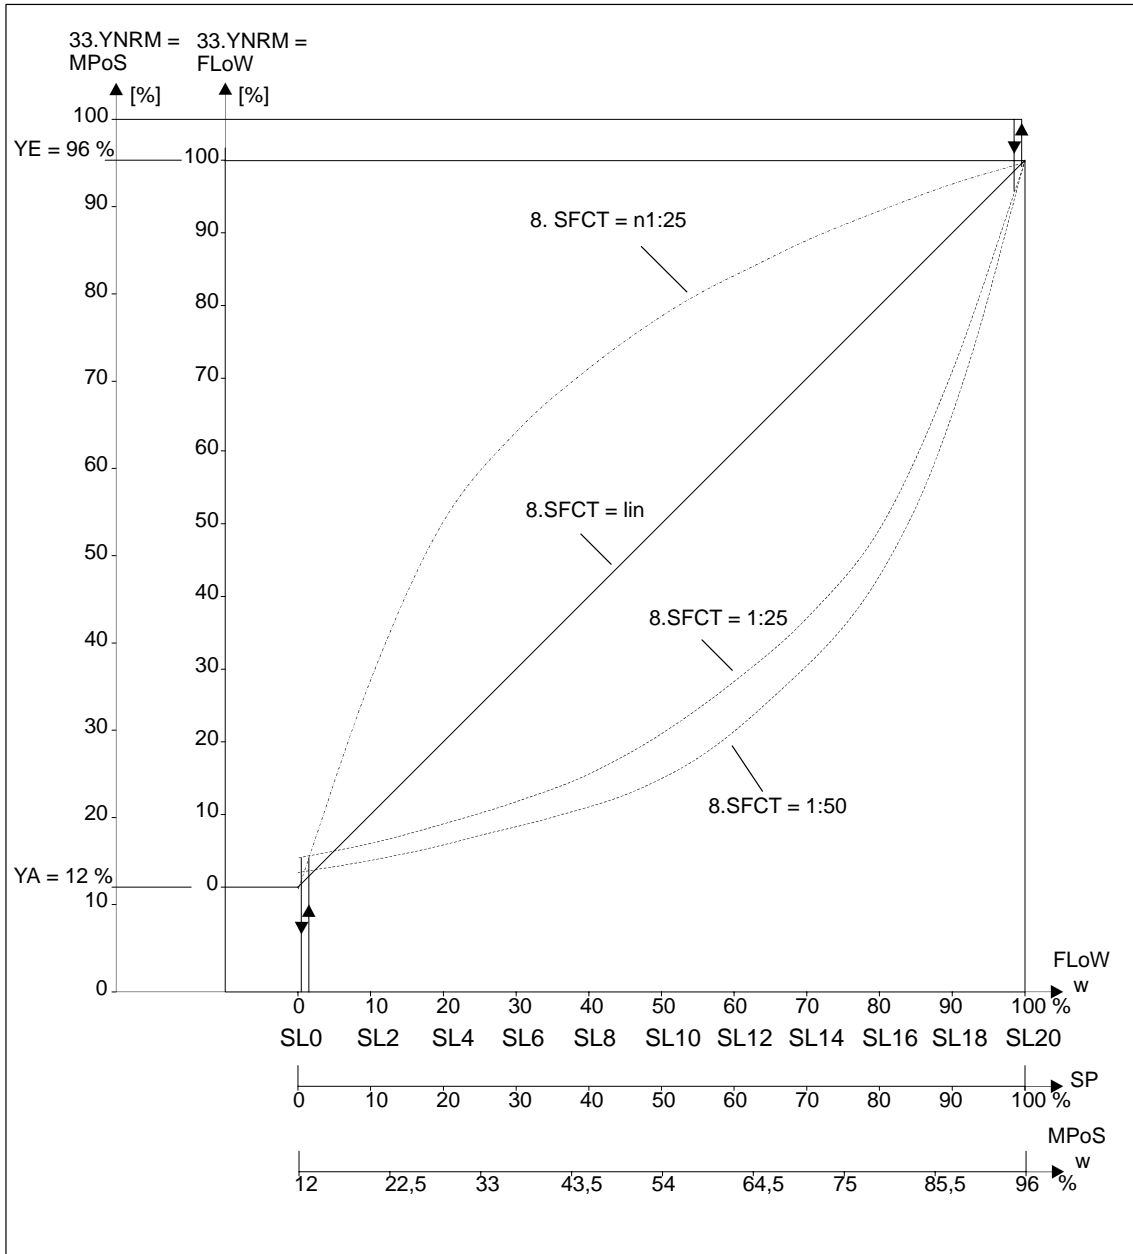

Fig. 4-9 Setpoint characteristics, normalization of the manipulated variables and tight closing function
09.SL0 to 29.SL20 Setpoint turning points (see Fig. 4-9)